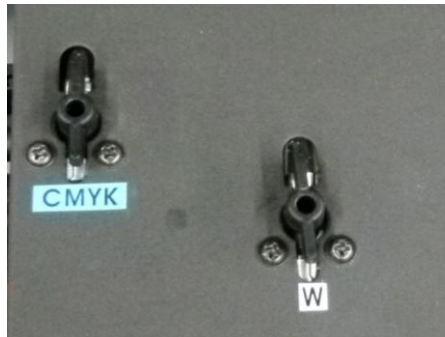

Figure 3: CMYK and White valves on top of carriage
3. Turn off the CMYK and White valves on top of the carriage. See **Figure 3**.